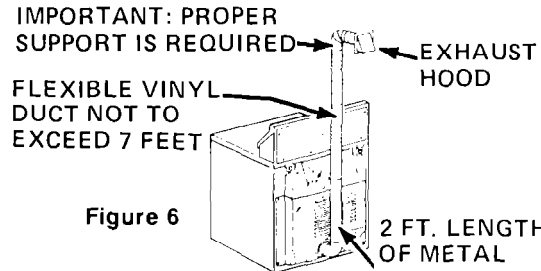

Figure 6
12. We do NOT RECOMMEND non-metallic flexible duct. If you use non-metallic flexible duct you must connect a METAL elbow and at least 2 feet of METAL duct to the dryer outlet. The length of the non-metallic flexible duct should not exceed 7 feet, and it must be adequately supported to prevent sagging or kinking. See FIG. 6.